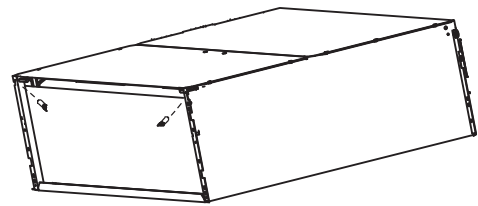
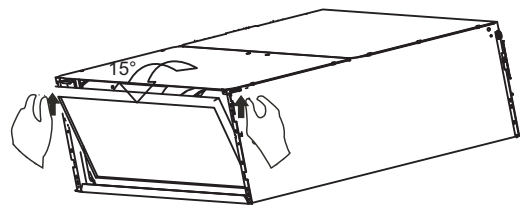

Figure 11.1
Figure 11.2
- Remove the bolts, push the grille switches simultaneously, as indicated in Figure 11.1. Then pull down the air intake grille (together with the air filter, as shown in Figure 11.2). Pull the air intake grille down to 15°, and lift it up to remove the grille.